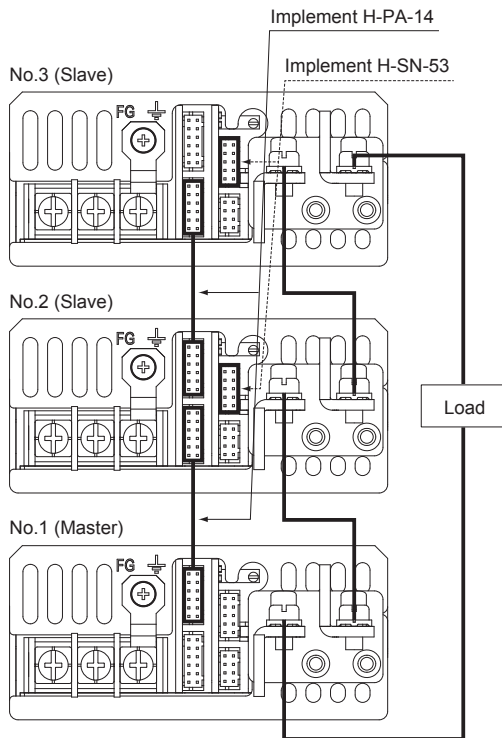

Fig.4.1 Connection method in series
- Wiring method with series operation is shown in Fig.4.1.